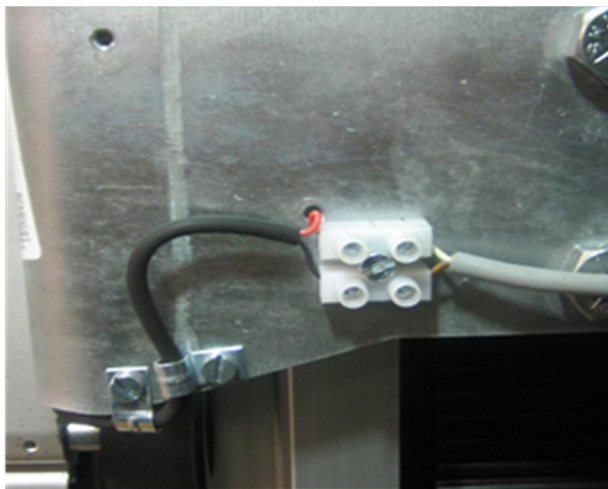

Figure 7
13. Route the reversing edge through the P-clips to the white plastic terminal block. NOTE: Failure to route the cable correctly may cause premature wear or breakage of the cable. The reversing edge wires are not polarity sensitive therefore it doesn't matter which terminal they go to. (See Figure 7).